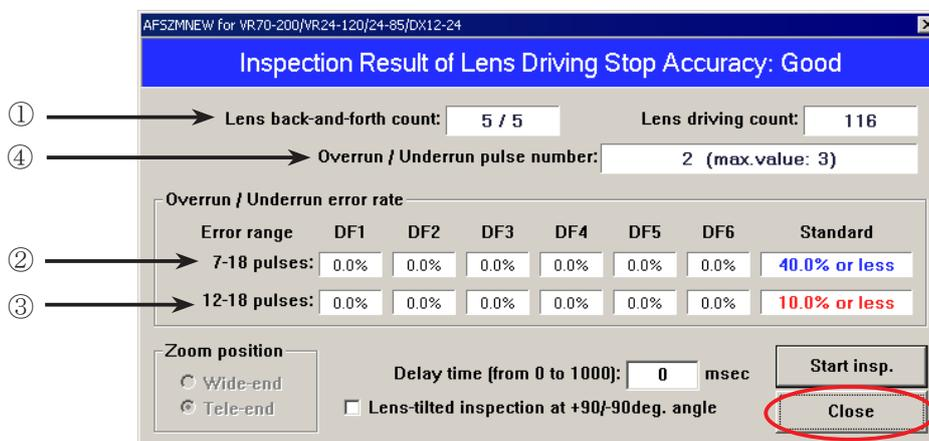

Fig.2
19-or-more pulse occurrence: 0 for DF1 ~ Df6 ④ of "Fig.2"
⑤ When the operation check is completed, the result is displayed as shown in "Fig.2".
- ② Select each driving amount. Confirm that each lens driving time is within the standard. (Fig.2)
- ③ If the inspection result is within standard, click "Close" to end. If any of each driving amount becomes out of standard, make the readjustment by referring to Page L56-16.